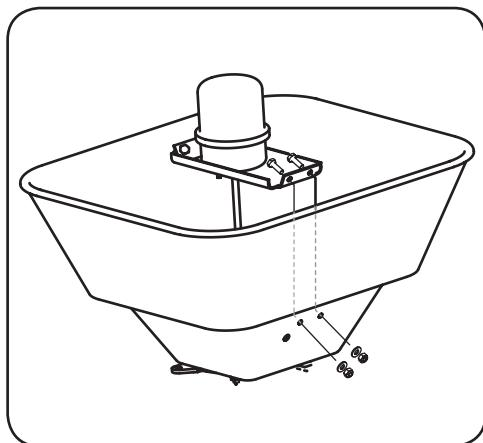

Figure 1-5
1. Attach the motor assembly to the bottom inside of the hopper by threading four M6 x 20 bolts through and connecting with flat washers and M6 locknuts. See Figure 1-5